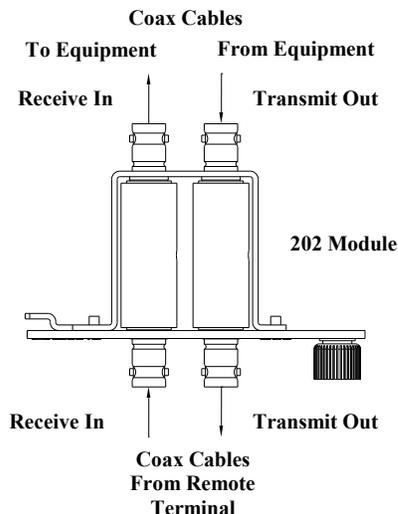

Figure 3
2. Connect the 202 module between the incoming coax cable from remote terminal and to be protected equipment (See Figure 3).